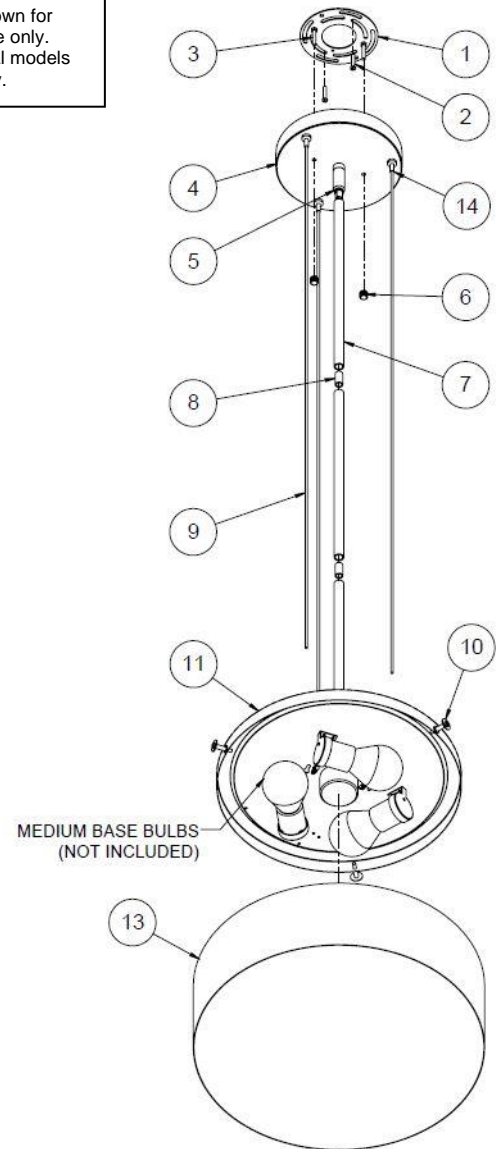

FIG 1
Step 1 – Preparing for Installation (Fig 1)
- Remove the mounting bracket (1) from the canopy (4) by removing two finials (6).
- Install the mounting bracket the junction box (not included) in ceiling using two screws (2) to secure it.
Step 2 – Assembling Fixture (Fig 1 & 2)
- Aircraft cables (9) has been pre-assembled from factory. To adjust by pressing the "Spring Pin" (14) to make adjustment. Repeat these steps for the other cables. **Note: 108" long adjustable aircraft wires provided.**
- Power wires have been pre-assembled through the stem kit from factory. The remaining ends will need to be assembled to the fixture (11). **Note: 36" total length provided. Stems consist of 2x 6" and 2x12" long. Consult factory for additional stem if longer stem is required (sold separately).**
- Connect all stems (7) together and to the swivel (5) and lower nipple (12) by turning clockwise to secure it.